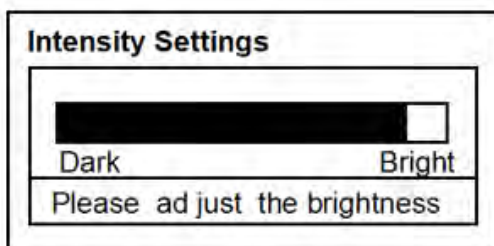

Figure 12
- On the **Using settings** page (figure 8), press to select **intensity settings** query items, press to enter the **intensity settings** page (figure 12), and Press to change the display lightness, which is indicated by progress bar and digits. Press to go back to the previous menu